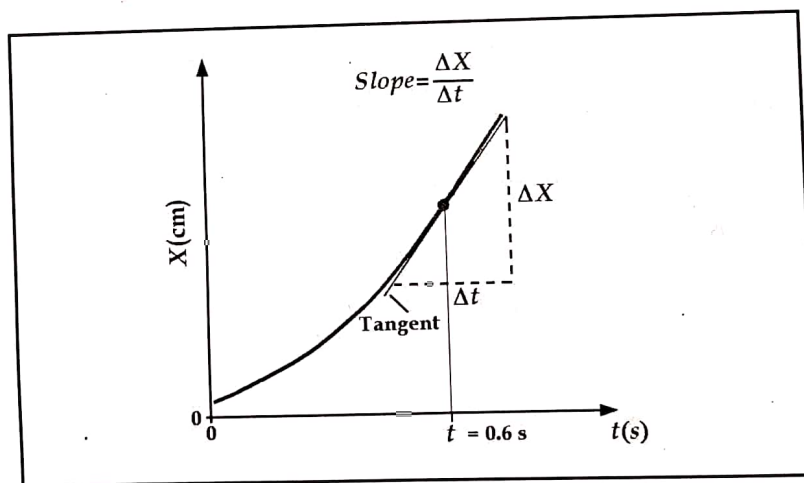

Figure 4.3: Displacement versus time (non-uniform motion):
a) Calculate the instantaneous velocity at $t = 0.6$ s from the slope of the tangent (Figure 4.3) to your X versus t graph at $t = 0.6$ s. Show your calculations in detail on your graph.